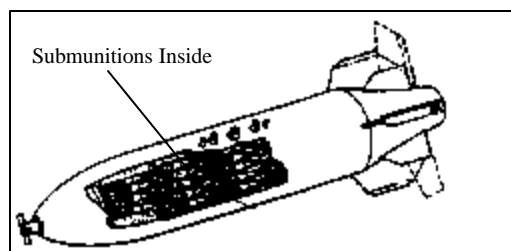

Figure 27. Dispenser (cutaway section).
- (1) **Dispensers may be classified as another type of dropped ordnance. Like bombs, they are carried by aircraft. Their payload, however, is smaller ordnance called submunitions. In Figure 27, the cutaway shows the submunitions inside the dispenser body. Dispensers come in a variety of shapes and sizes depending on the payload inside. Some dispensers are reusable, and some are one-time-use items.**